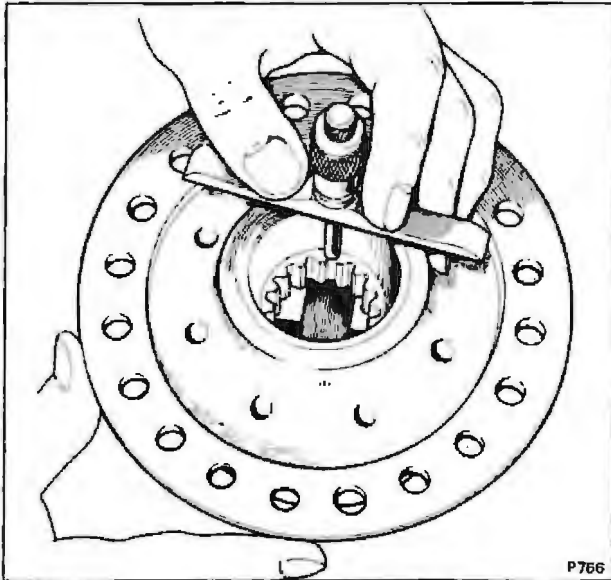

Fig. J2-4 Splined bevel pinion measurement
5. Push the splined pinion gear into mesh with the bevel gears as far as possible. Measure the distance from the end of the differential housing to the end face of the pinion gear (see fig. J2-4).